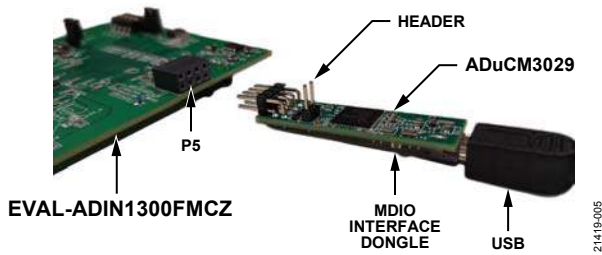

Figure 4. MDIO Interface Dongle Connection to the USB Cable and EVAL-ADIN1300FMCZ
The MDIO interface dongle is a separate board included in the EVAL-ADIN1300FMCZ evaluation kit. The MDIO interface dongle has an on-board, ADuCM3029 microcontroller and an FDTI Chip FT232RQ, universal asynchronous receive transmitter (UART) to USB interface. The schematic for this hardware is shown in Figure 41. When using the MDIO interface dongle, connect the USB cable to the MDIO interface dongle first, then connect the MDIO interface dongle to the EVAL-ADIN1300FMCZ with the ADuCM3029 facing up (see Figure 4).
4. Ensure that the **ADuCM3029** microcontroller faces up (see Figure 4) and connect the MDIO interface dongle to the EVAL-ADIN1300FMCZ. The MDIO interface dongle is not keyed.